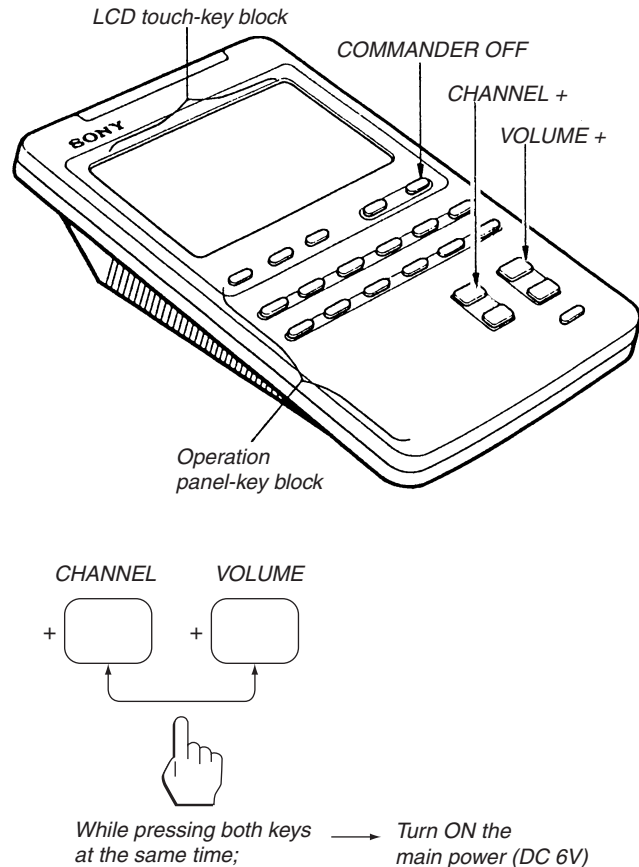

Fig. 1-1
- 1) While pressing the **CHANNEL +** key and the **VOLUME +** key, turn ON the main power of the regulated power supply (DC +6V). (Refer to Fig. 1-1.)